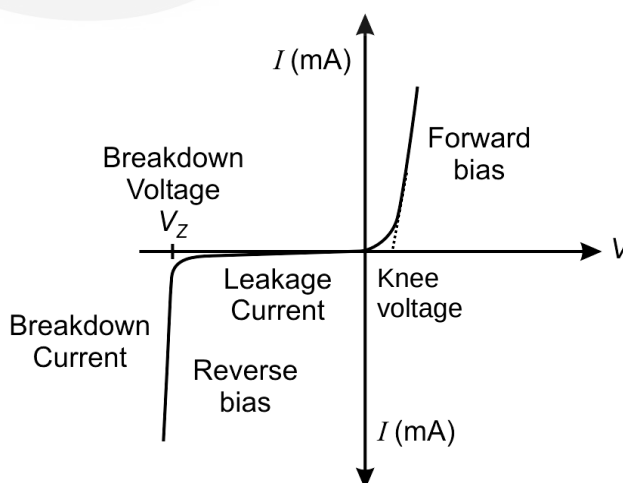

Fig. 6.2: *I-V* characteristics of a zener diode.
A typical *I-V* characteristic plot of a zener diode is shown in Fig. 6.2. The reverse breakdown voltage is indicated by V_z . The Zener breakdown voltage (V_z) is of great significance in the operation of Zener diode as a voltage regulator.
10. Plot forward and reverse bias *I-V* characteristic curves of Zener diode. Do your curves resemble the *I-V* characteristics shown in Fig. 6.2?